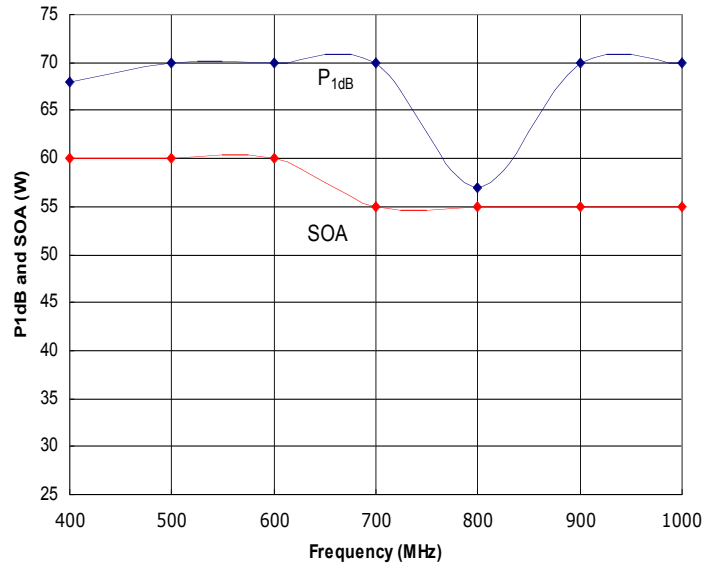

Figure 2: RFP400-1000-50 Typical P_{1dB} and CW Safe Operating Area (SOA)
- 5) Apply DC power and sufficient RF drive to achieve desired output level. Ensure that the Safe Operating Area (SOA) power level indicated on Figure 2 is not exceeded, or amplifier damage may occur, and will void the warranty.
This is a very versatile amplifier capable of pulsed or peak power beyond the CW SOA specified in Figure 2. Contact the factory at sales@rfcomp.com to discuss your application, or for any other questions, special options, frequency extensions and/or testing requirements.